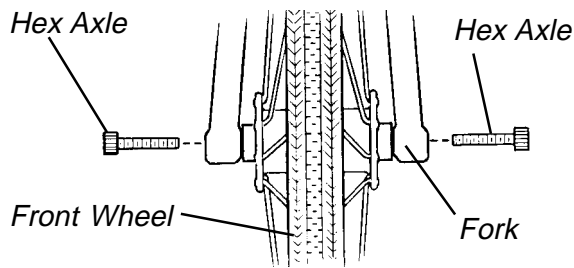

FIGURE 3 - INSTALLING/REMOVING FRONT WHEEL
**INSTALLING/REMOVING FRONT WHEEL (FIGURE 3)**
1. Remove the two (2) hex axles from the front wheel.
3. Reinstall the (2) hex axles and securely tighten the front wheel to the fork.